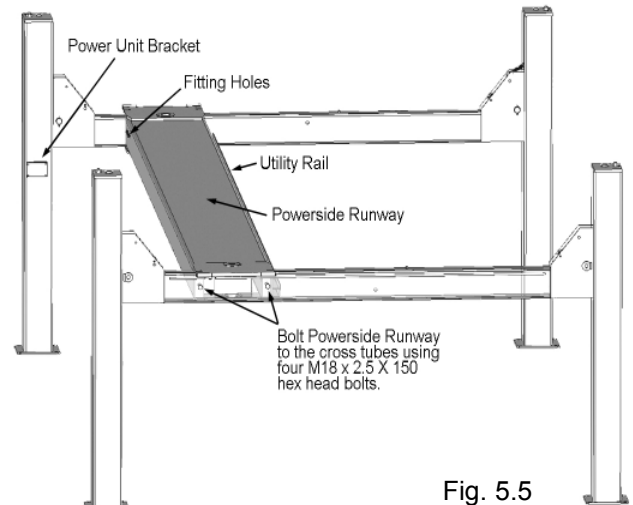

Fig. 5.5
4. Position the POWERSIDE RUNWAY on top of the Cross Tubes with the UTILITY RAIL towards the center. The fitting holes located at the side of the Powerside Runway should be adjacent the POWER UNIT COLUMN. Align the holes in the Runway with the holes on the Cross Tubes and bolt together (~~torque to 35-45 Ft/lbs~~) using four M18 x 2.5 hex bolts and washers. (See Fig. 5.5)